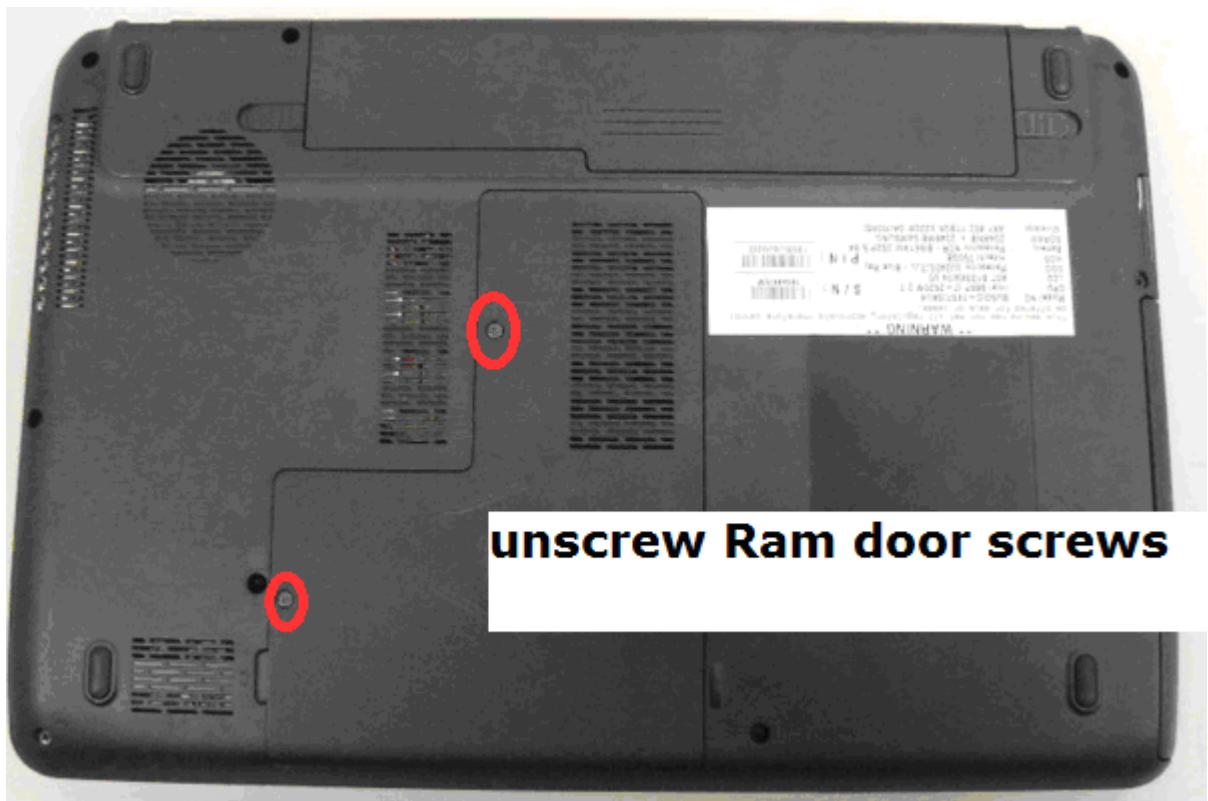

Figure 4-4-1 Remove Ram door screws.
3. Remove the Ram door SCREW M2.5*4F 2PCS. (Figure 4-4-1)